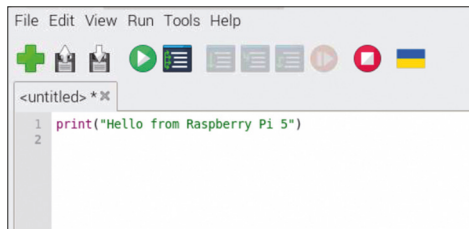

Figure 2.13: Type your program and then save it.
- Click **File** → **Save** and save with the name `hello.py` (Figure 2.13)